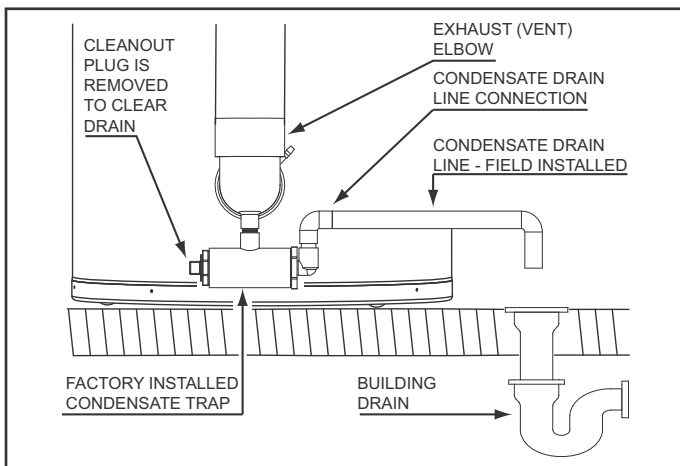

Figure 9
Condensate drains from the water heater at the exhaust elbow located at the bottom. The field installed condensate drain line must not be elevated above the condensate drain connection on the condensate trap, see Figure 9. If the condensate does not drain properly it will build up in the exhaust (vent) elbow. This will restrict the flow of flue gases and cause the Blocked Exhaust pressure switch to open its contacts. The control system monitors all pressure switches, if the Blocked Exhaust Switch contacts are open the control system will lock out and disable heating operation. The “Blocked Exhaust” Fault message will be displayed on the control system’s LCD, see Fault And Alert Conditions beginning on page 61.
**DO NOT** remove the factory installed condensate trap for any reason, see Figure 9. The water heater’s vent pipe is under a slight positive pressure. The water trap prevents flue gases from escaping into the installed space. See Condensate Drain Installation on page 38.